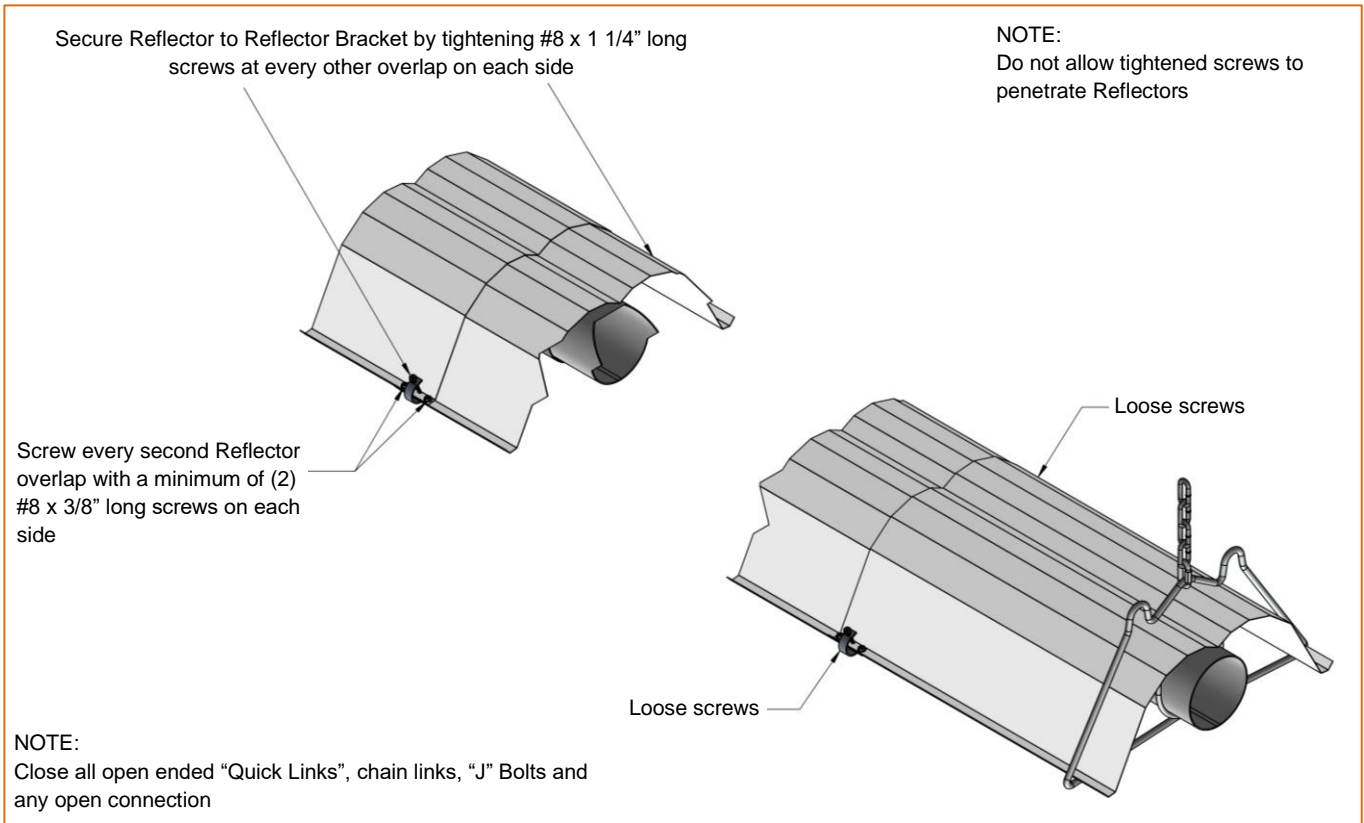

Figure 16: Reflector Supports Installation and Reflector Overlap
- Secure every second reflector overlap together with a minimum of 2 - #8 x 3/8" long screws (not supplied), and secure reflector to the reflector bracket at this point by tightening down #8 x 1 1/4" screws supplied with reflector brackets (Figure 16). The remaining reflector overlap joints and reflector brackets are left loose to accommodate system movement.